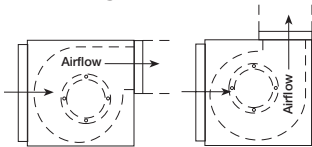

Figure 7 — Ductwork
3. Check ductwork to see if the fan's discharge requires rotation from horizontal to vertical discharge, shown in Figure 7.